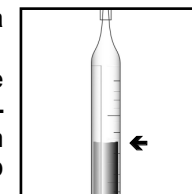

Figure 5
- When the color of the liquid in the ampoule changes to **BROWNISH-ORANGE**, remove the ampoule from the Titrettor. Hold the ampoule, **tip pointed upward**, and read the scale opposite the liquid level (fig. 5).